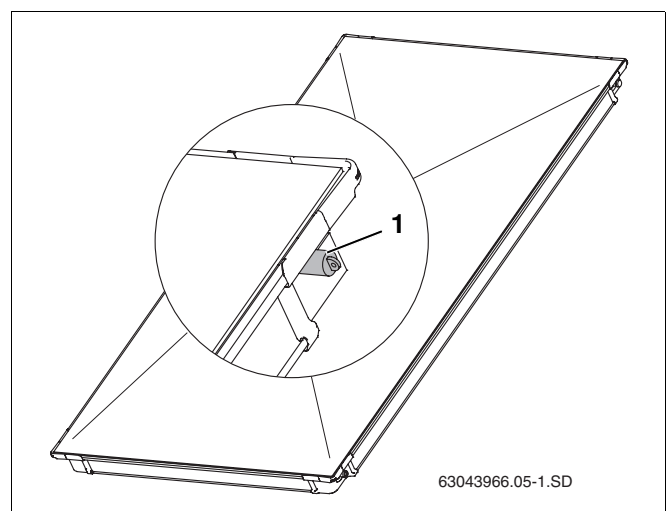

Fig. 6 Plastic caps on collector connections
- Do not remove the rubber caps (Fig. 6, **Item 1**) until immediately prior to installation.